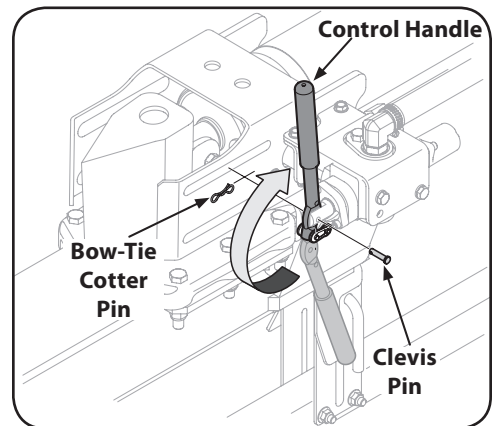

Figure 2-8
22. Remove the clevis pin and bow-tie cotter pin from the control handle. See Figure 2-8.
23. Rotate the control handle into the operating position and secure with the clevis pin and bow-tie cotter pin removed in step 22. See Figure 2-8.